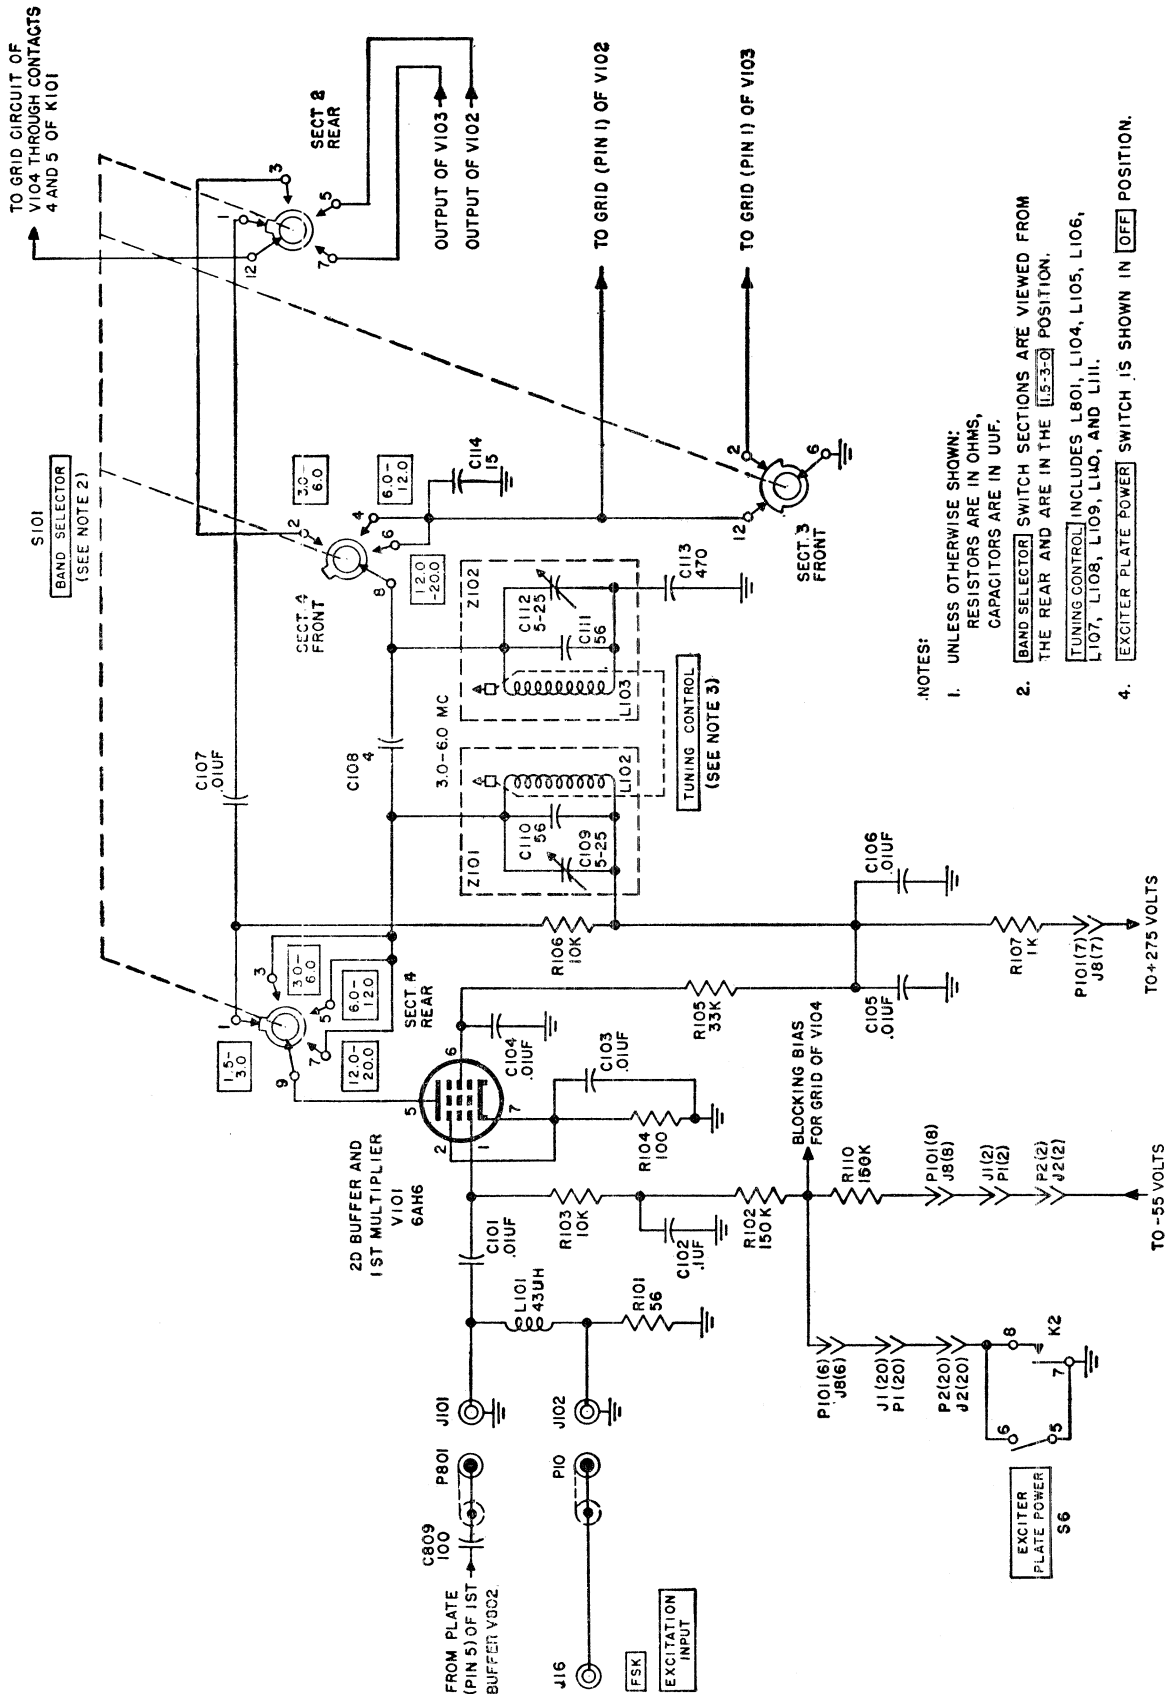

Figure 29. Second buffer and first multiplier, functional diagram.
55. Second Buffer and First Multiplier Stage (fig. 29)